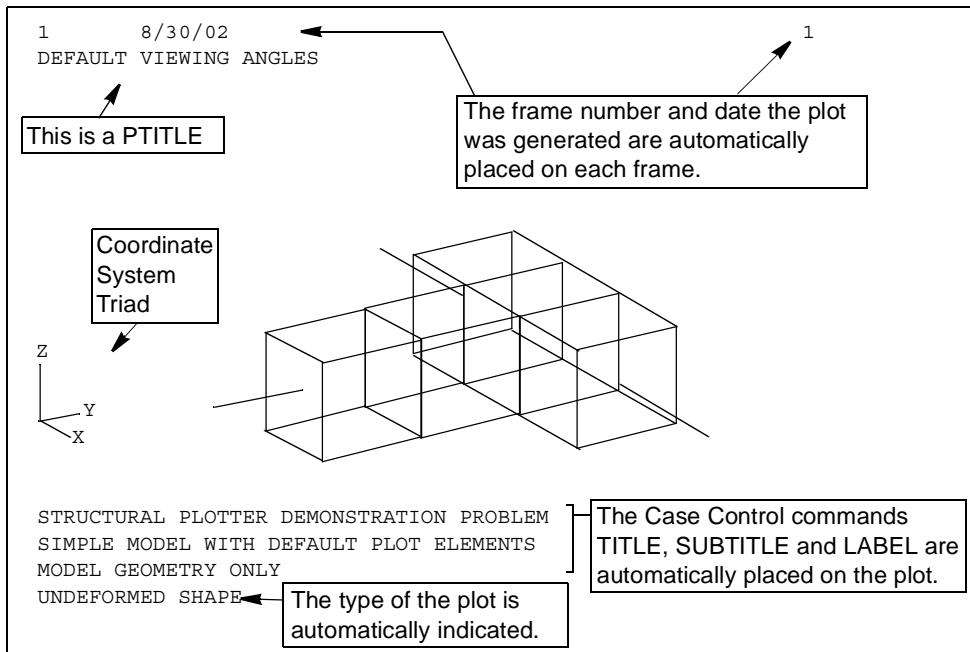

Figure 5-4 Basic Structural Plot Elements
Figure 5-4 shows a typical structural plot. The plot is annotated to indicate the various plot elements. Some of these are controlled by commands that you may use, while others are automatically generated by NASTRAN-CORE. The next section describes these commands in more detail.
**Viewing Angles.** Figure 5-4 shows a typical structural plot with its plot elements annotated. The basic viewing angles, which is shown in the figure, are:
The command PTITLE allows you to define an additional plot title element, as shown in Figure 5-4.